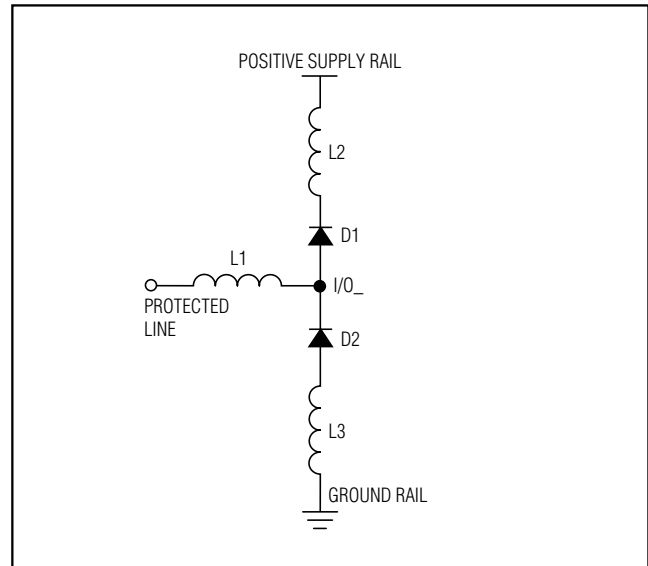

Figure 1. Parasitic Series Inductance
**Note 2:** Idealized clamp voltages ( $L1 = L2 = L3 = 0$ ) (Figure 1); see the *Applications Information* section for more information.
In reality, the effect of the parasitic series inductance on the lines must also be considered (Figure 1).